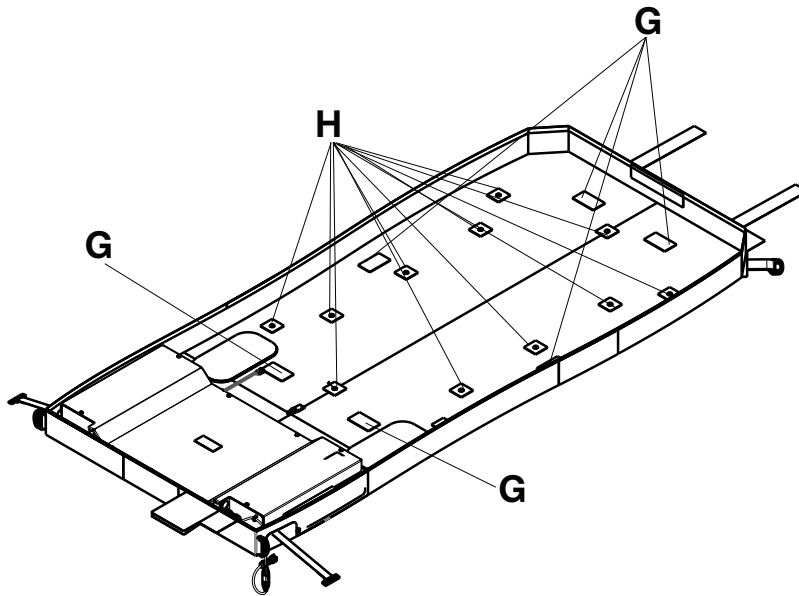

Figure 26 – Pod hook and loop fasteners and snap retainers
7. Lift up on the foam crib, reach between the foam crib and the bottom cover to unhook the six hook and loop fasteners (G) and unsnap the 12 snap retainers (H) (Figure 26).